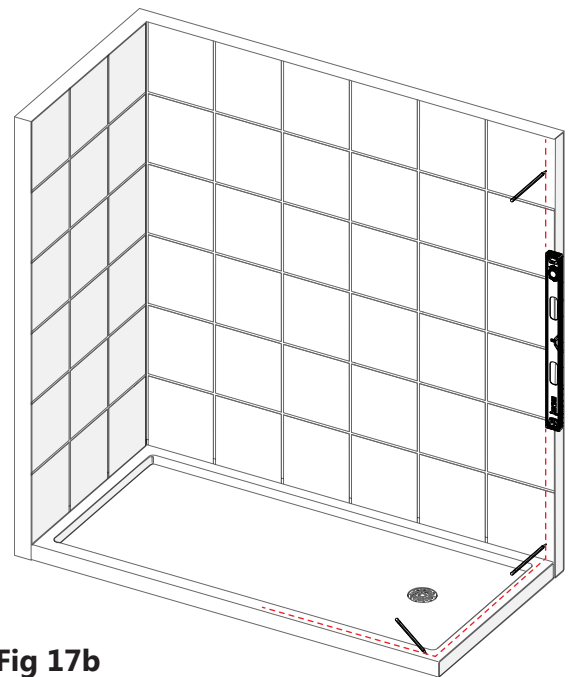

Fig 17b
- Centering the panels on the threshold may be acceptable. For proper alignment, it is required to install the return panel first (for example, as shown in **Fig. 17a**) in order to align the inline panel. Mark a lines to the wall and threshold to determine where to install the panels, as shown in **Fig. 17b**.